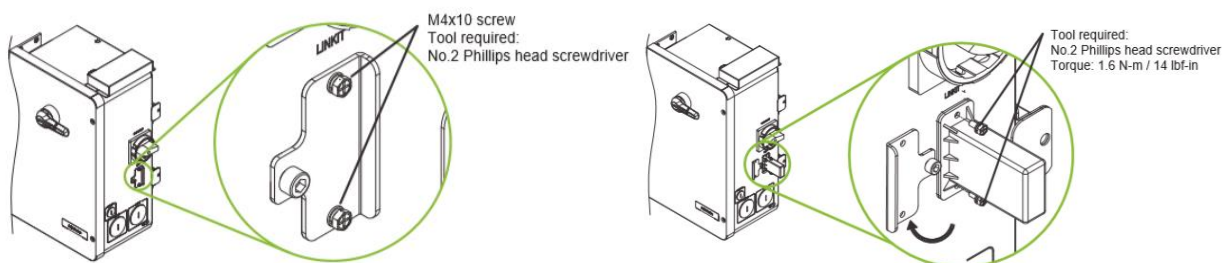

Figure 3-19 Installation of the Wi-Fi Module
- a. As shown in Figure 3-19, remove the two M4x10 fixing screws on the DB9 connector cover.